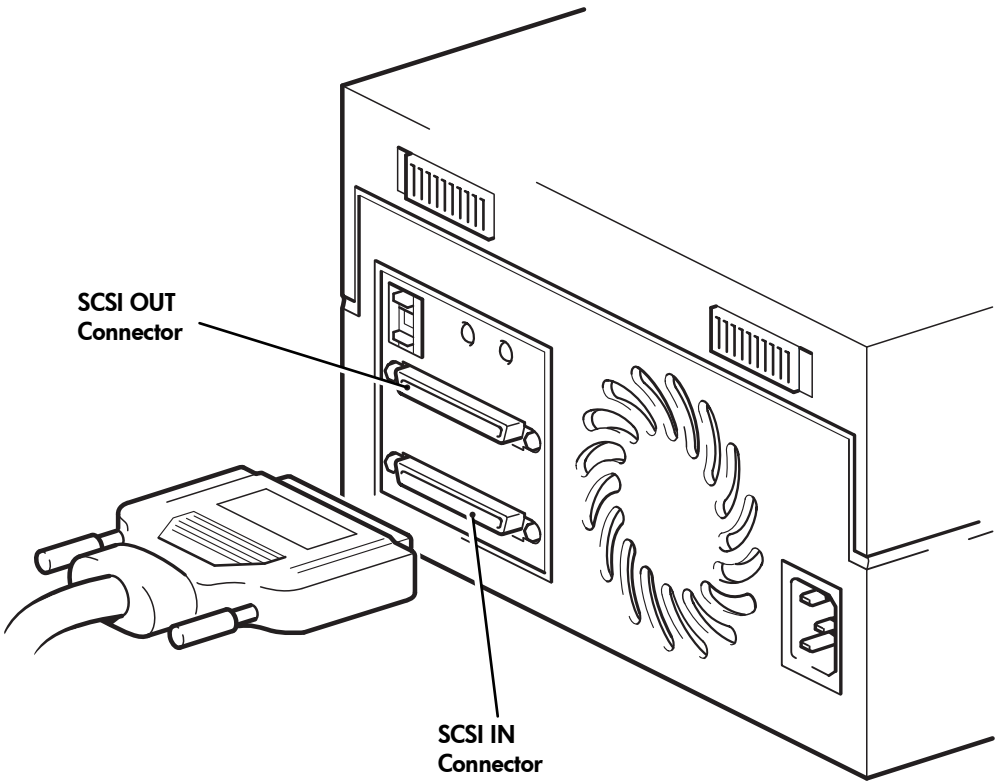

Figure 5: connecting the SCSI cable
- 4 Attach the HD connection on the SCSI cable to the SCSI-IN connector on the rear panel of the tape drive and secure it by tightening the screws. (See Figure 5.) Do **not** connect the cable to the SCSI-OUT connector.